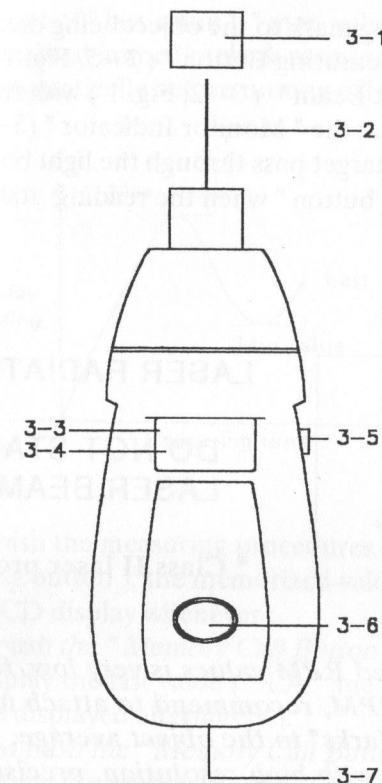

Fig. 1
Apply a reflecting mark to the object being measured. Depress the " Measuring Button " ( 3-5, Fig. 1 ) & align the " Laser Light Beam " ( 3-2, Fig. 1 ) with the applied target. Verify that the " Monitor Indicator " (3-3, Fig. 1) lights when the target pass through the light beam. Release the " Measuring button " when the reading stabilizes ( about 2 seconds ).
- a) *First push the " Memory Call Button " ( 3-6, Fig. 1 ) –*
- 2) Slide the " Battery Cover " ( 3-7. Fig 1 ) away from the meter and remove the batteries